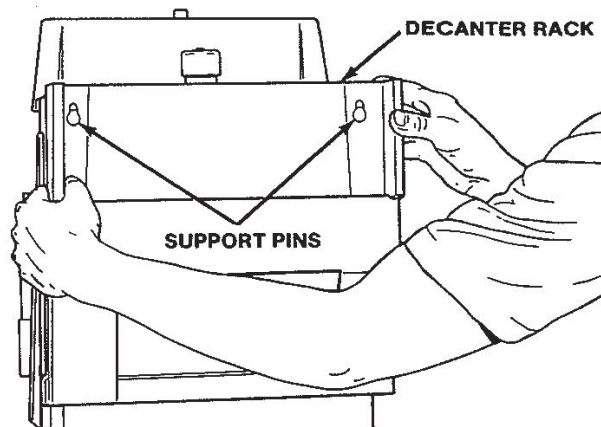

Figure 18. Removing Decanter Rack
- E. Remove the decanter rack by firmly grasping the outer edges of the rack and lifting up to disengage the rack from the support pins (Fig. 18). Then pull the rack out towards you. Clean the decanter rack with a mild alkaline cleanser and soft cloth or sponge. Rinse clean with clear water.